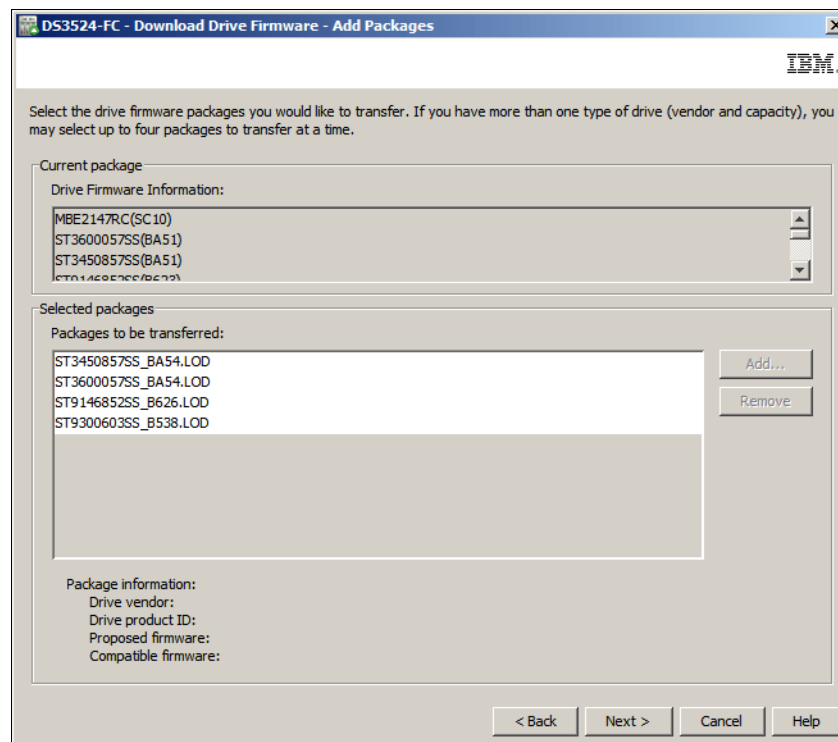

Figure 14-85 Drive packages added
4. Repeat these steps for every drive type that you want to update. You can update up to four drive types at a time. After you have selected the compatible drive firmware packages, click **Next** in the Download Firmware window (Figure 14-85) to continue.